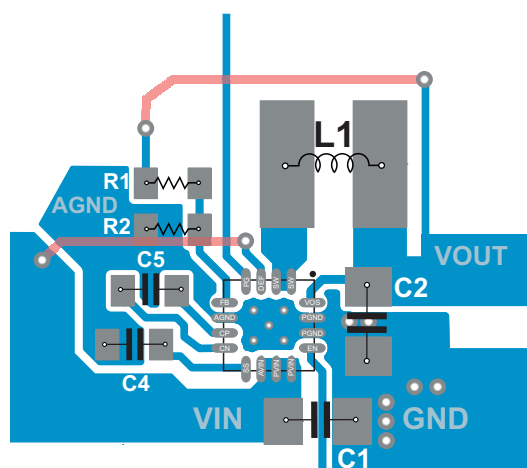

Figure 25. Recommended Layout
- See Figure 25 and the evaluation module User Guide (SLVU670) for an example of component placement, routing and thermal design.